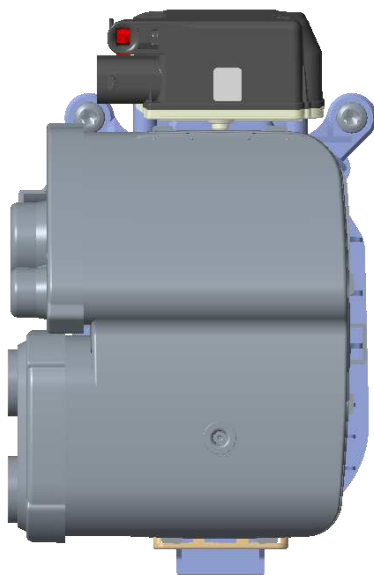

Figure 11a
- Cable direction RIGHT, figure 11a